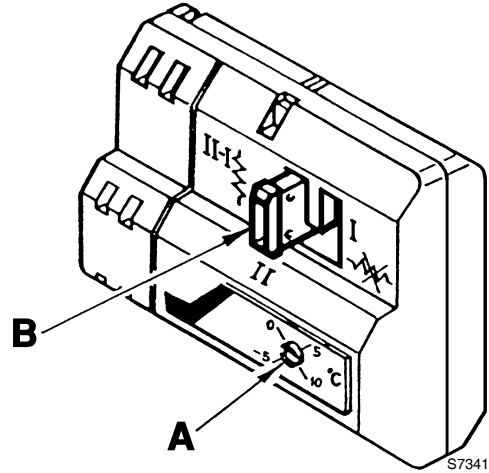

Fig. 25
- 2 In relation of the position of the plug **B** (Fig. 25), it determines the type of required operation:
In this case the setting screw **A** (Fig. 25) is not necessary.
The external temperature causing the economizer intervention might be chosen between -5 °C and +10 °C, turning the setting screw **A** (Fig. 25) using the screw-driver.
For this type of operation the plug **B** (Fig. 25) has to be placed in the position **I-II**.